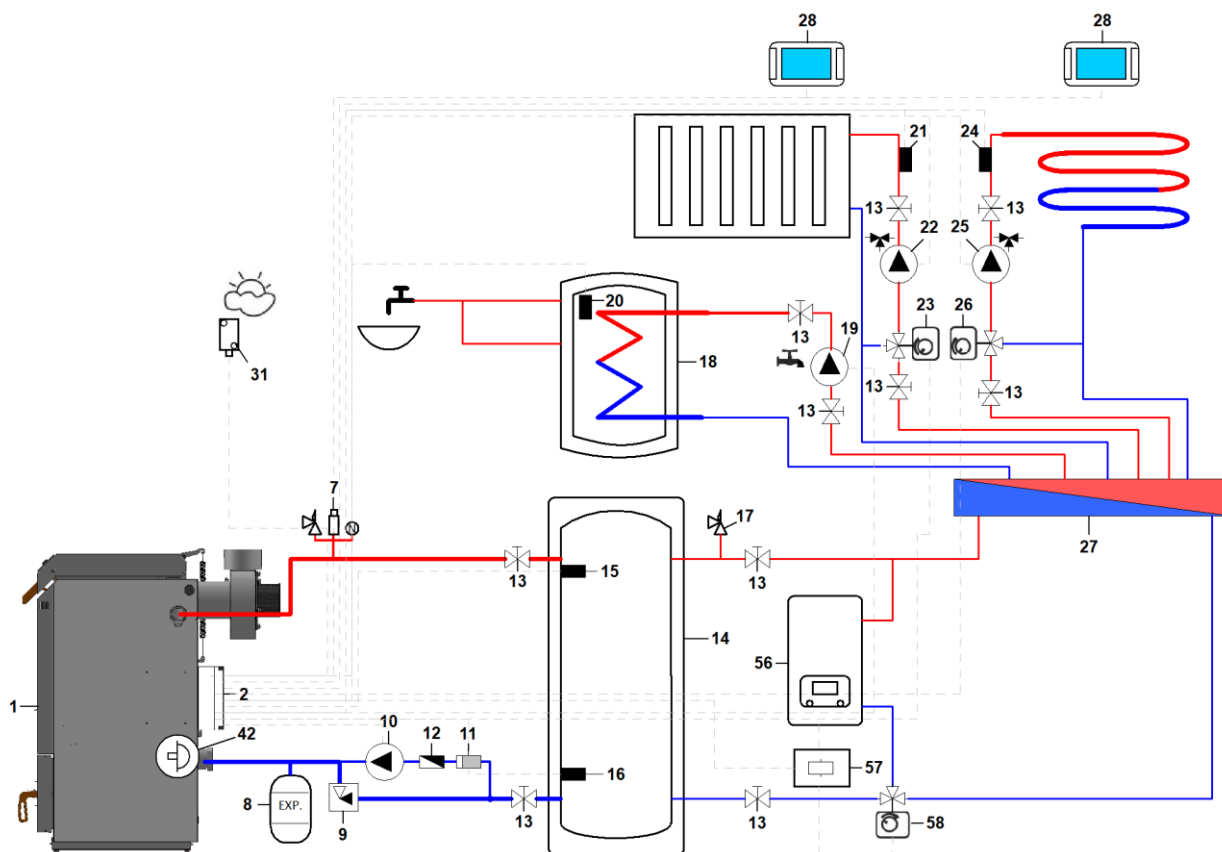

Figure 32. Hydraulic connection with reserve boiler (56) and diverter valve (58)
*A three-way diverter valve can be connected to separate the heating circuit and HUW from the storage tank to prevent it from heating up - see Figure 32.*